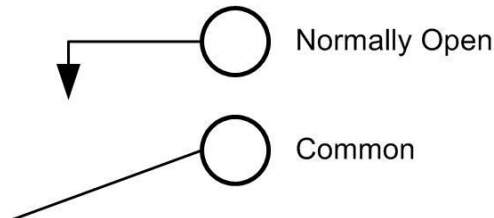

Figure 7. Form A Relay (5) contacts
The Form A relay has a common and a normally open (NO) contact. Figure 7 shows the schematic for a Form A relay, like those connected at relay 5 through relay 7.